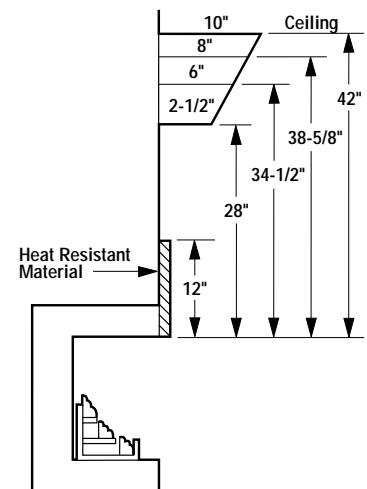
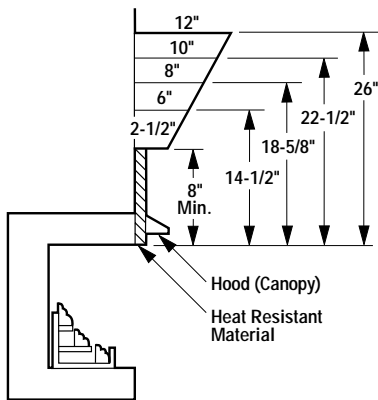

Figure 4
Figure 5
12" or more	Adjustable canopy not required. Observe profiles shown in Figure 4.
8" minimum to 12"	Install adjustable canopy and observe profiles shown in Figure 5. or Extend heat resistant material to at least 12" and observe profiles shown in Figure 4.
**Step 4. Wood mantel, shelf or combustible projection requirements:** To install a wood mantel, shelf or other combustible projection directly above the fireplace (firebox), refer to Table 3 and to Figures 4 and 5 for installation profiles.